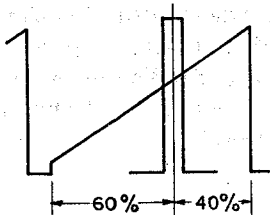

Fig.3 Speed adjustment
- (1) Connect a dual trace oscilloscope to TP-1 on KU-351 P. W. board.
- (2) Start 45 rpm rotation first. Adjust VR 2 so that the sampling pulse comes at 60% position from starting edge of the saw tooth waveform. (See Fig. 3.)
- (3) Change over to 33 rpm and adjust VR 1 to bring the pulse to 60% position in the same manner.